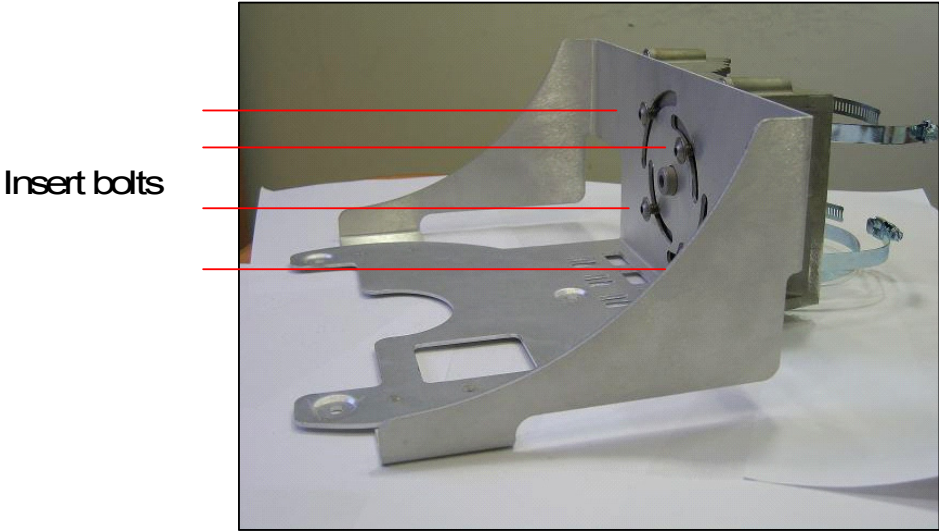

Figure 3.11. **Attaching the Tray to the Back Plate**
6. Attach the tray to the back plate as shown in Figure 3.11.